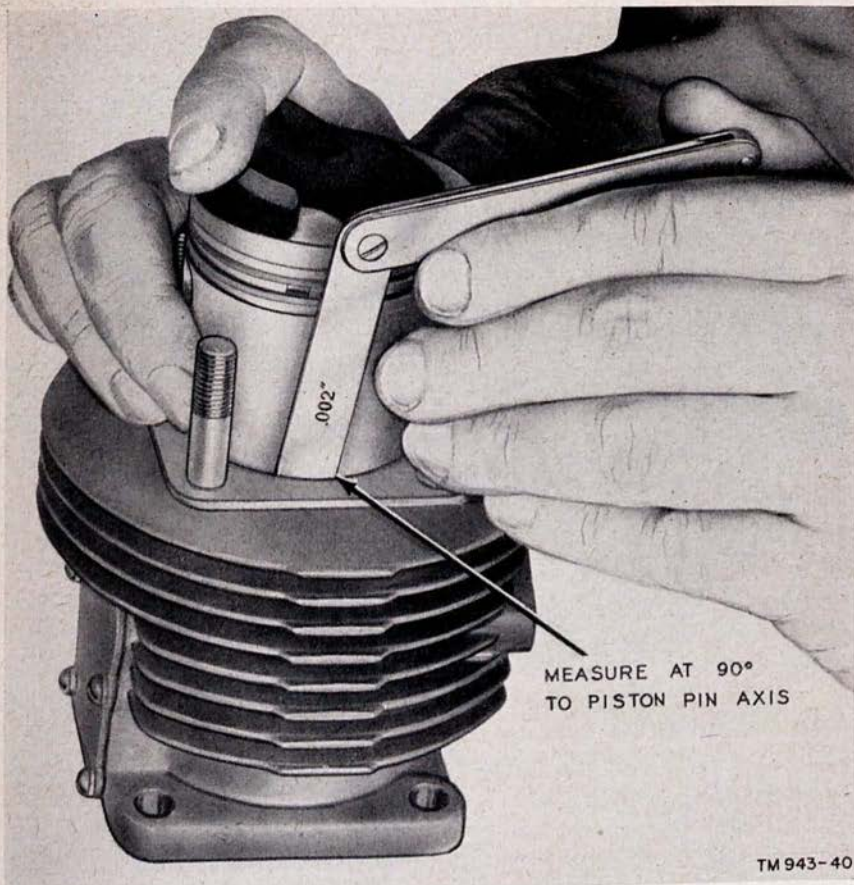
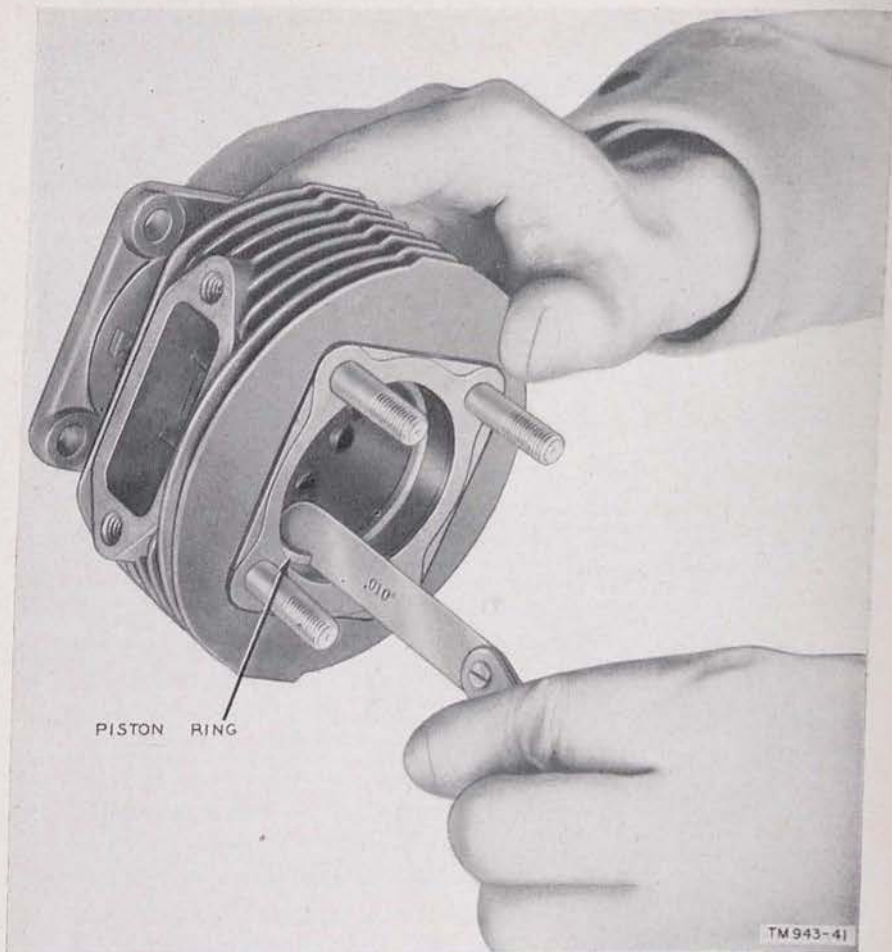

Figure 40. Checking piston skirt clearance in cylinder.
Figure 41. Checking piston ring gap.
- (1) Insert the skirt of the piston in the cylinder with the piston pin in its normal direction and measure the clearance at the bottom of the skirt at a point 90° from the axis of the piston pin (fig. 40). This clearance should be from .0025 to .0035 inch. Remove the piston from the cylinder and measure the diameter of the piston skirt at 90° from the axis of the pin. If the skirt is less than 1.993 inches, replace the piston.
- (2) Take several readings of the inside diameter of the cylinder wall with an inside micrometer. Take the readings at points from top to bottom of the space in which the piston travels, both parallel to the crankshaft and at right angles to it. Standard cylinder bore is 2.0010 to 2.0015 inches. If the micrometer reading of the standard bore is exceeded by .005 inch, or if it is more than .003 inch out-of-round, replace the cylinder. Inspect the inside of the cylinder wall for marks. If it is seriously scored or marred, replace the cylinder.
- (3) Insert a piston ring in the cylinder. (Use the piston to push the ring in.) Check the gap between the ends of the piston ring with a feeler gage (fig. 41). If this gap measures more than .030 inch, discard the ring. Before installing a new ring, check the gap. If there is not at least .010-inch clearance between the ends of the new rings, file the ends of the ring until this clearance is obtained. Check each piston ring in this manner.